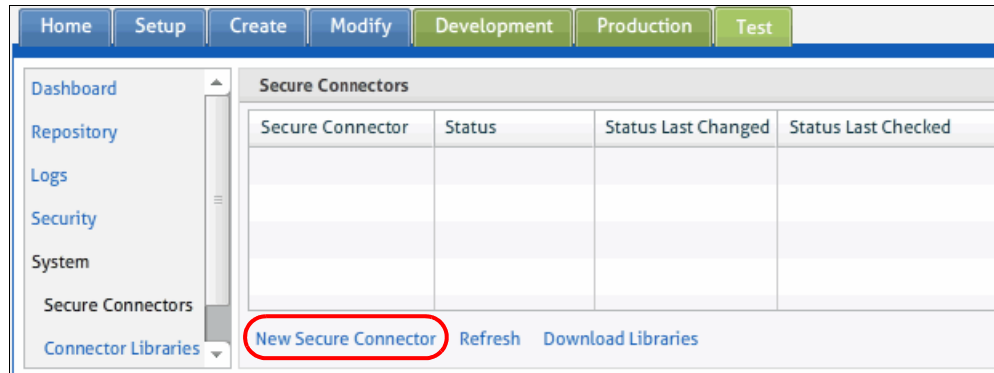

Figure 2-32 Cast Iron Live Secure Connector
- b. Click **New Secure Connector**, as indicated in Figure 2-32 on page 63.